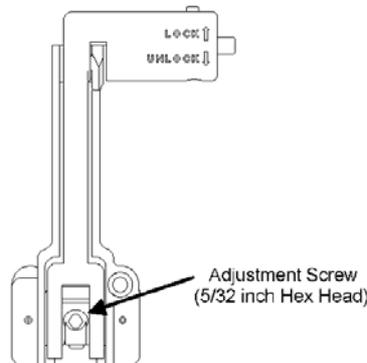

Figure 3.– Drawer Handle Adjustment Screw Location
- 3.1 Disengage launch restraints on both drawer handles on HRF Standard Stowage Drawer. Rotate adjustment screw counterclockwise one full revolution (Ratchet Wrench, 1/4" Drive; 5/32" Hex Head). Refer to Figure 3.